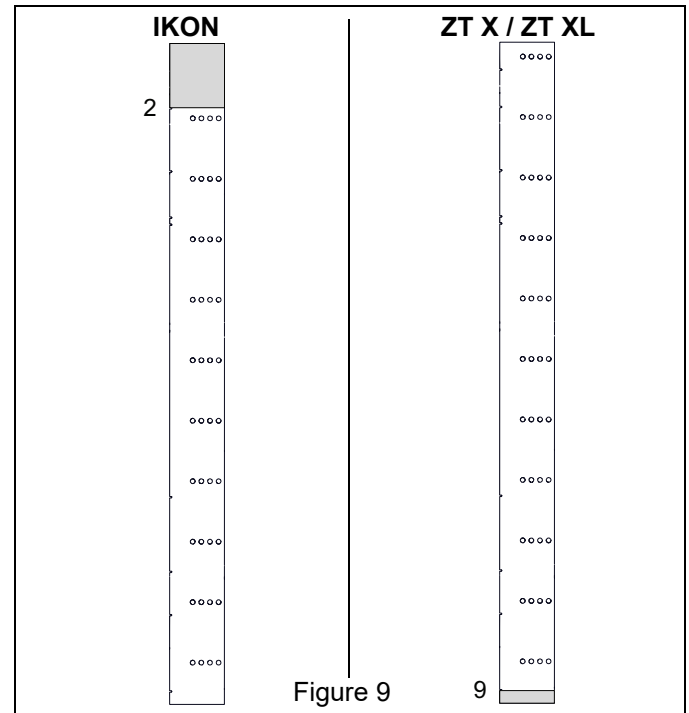

Figure 9
1. Trim rubber skirt (item 1) as shown in Figure 9.